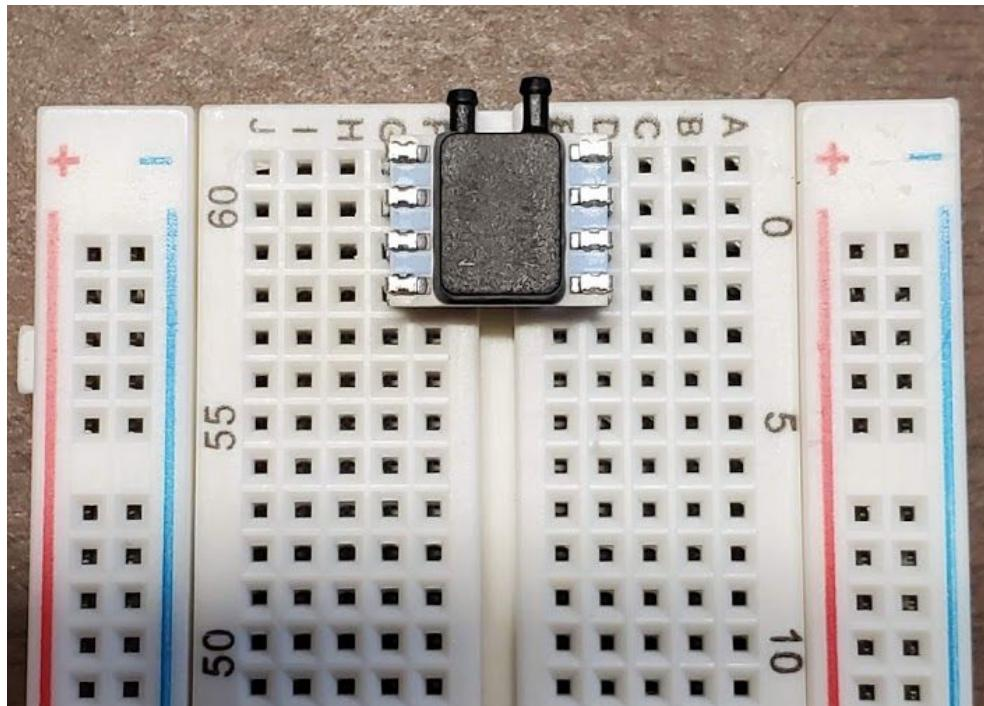

Figure 10.1 The pressure transducer in the breadboard.
10.1) Plug the pressure transducer into the top edge of the breadboard, making sure the ports are completely outside the breadboard AND the pressure transducer sits over the middle gap in the breadboard (the pins are on the two sides). Refer to Figure 10.1 to see how the transducer should be placed in the breadboard. Note: A perfboard can also be used here, in which the components may be soldered on.